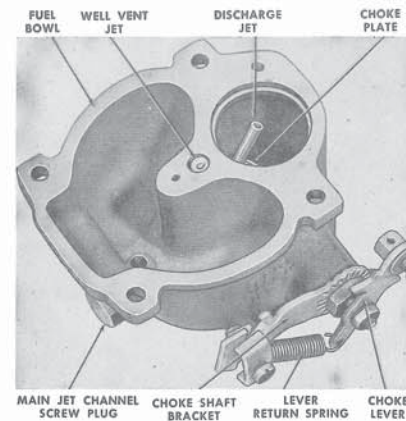

Fig. 32. Fuel Bowl - Internal View
**Remove Fuel Bowl Jets (Figure 32).** The discharge jet is located in the fuel bowl air passage and may be removed by unscrewing.
**Install Choke Plate (Figure 32).** Position fuel bowl with machined surface up and facing choke plate opening. Insert choke shaft in body and rotate until flat surface faces down. Insert choke plate, poppet valve first, with valve spring facing down. Center the plate in the bore, rotate shaft to close plate, and install retaining screws. Install choke shaft bracket and retaining nut. Hold plate wide open, and install lever on choke shaft so that lever lug contacts bracket lug. Install lever retaining nut and lock washer. Operate lever to check choke plate for free movement and for opening and closing correctly. Connect return spring at lever and bracket.
**Install Fuel Bowl Jets (Figure 32).** Install discharge jet and fibre washer in fuel bowl air passage. Install well vent jet and fibre washer in counter-bored passage at center of machined surface of fuel bowl. Install main jet and fibre washer in passage at side of fuel bowl. Install main jet passage screw plug over main jet.